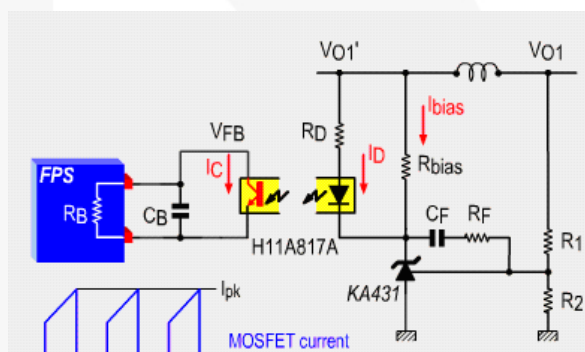

Figure 23. Typical Feedback Circuit
When FPS acts in Burst mode and the Burst operation is suspected to be a source of noise, this method may be helpful. If the frequency of Burst mode operation lies in the range of 2~4 kHz, adjusting feedback loop can shift the Burst operation frequency. In order to reduce the Burst operation frequency, increase a feedback gain capacitor (CF), opto-coupler supply resistor (RD) and feedback capacitor (CB) and decrease a feedback gain resistor (RF) as shown in Figure 23. Typical Feedback Network of FPS.